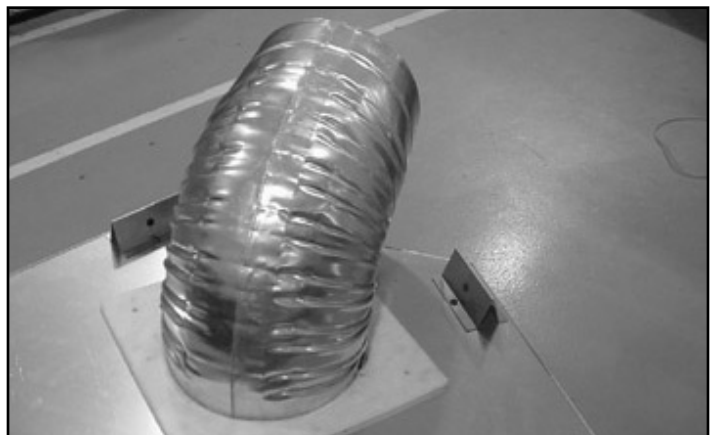

Figure 7.6 Attach the First Vent Section
- Attach the first vent section. It will snap into place. See Figure 7.6.